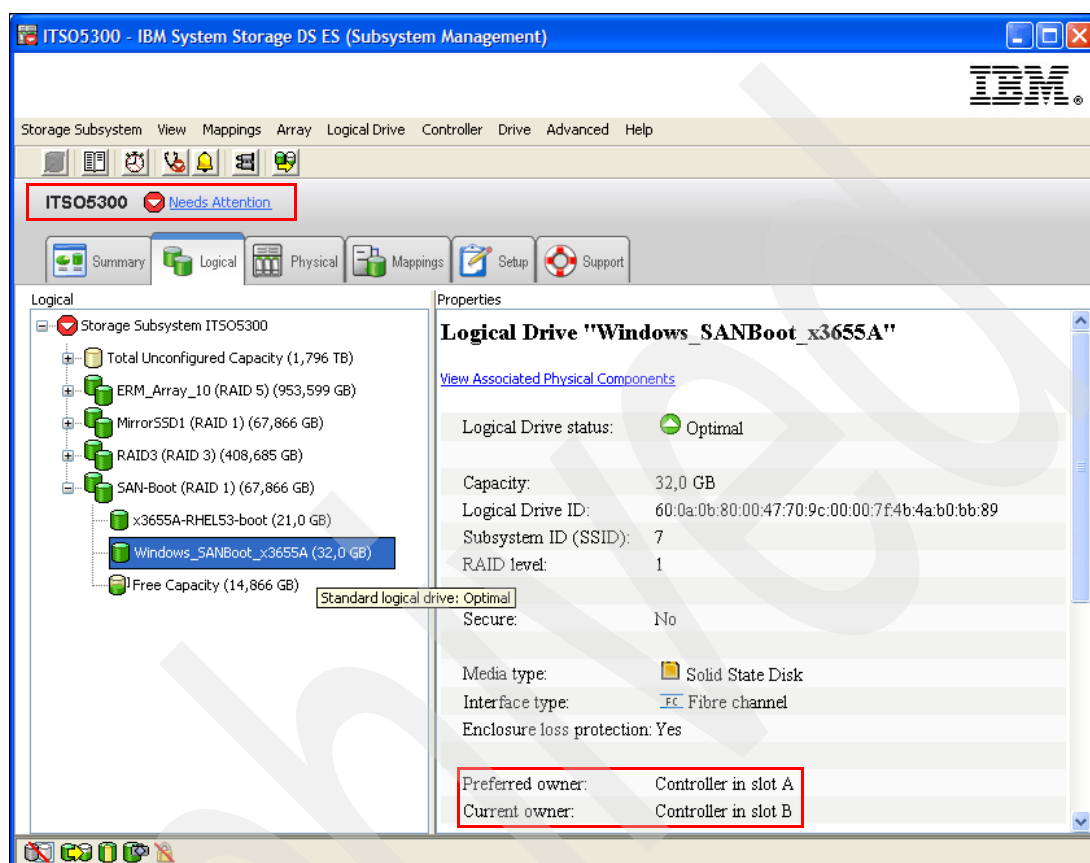

Figure 5-44 Controller B takes ownership
3. Within 120 seconds, the multipath driver will cause a failover to the secondary path, which is attached to controller B on the DS5000 storage subsystem (Figure 5-44).